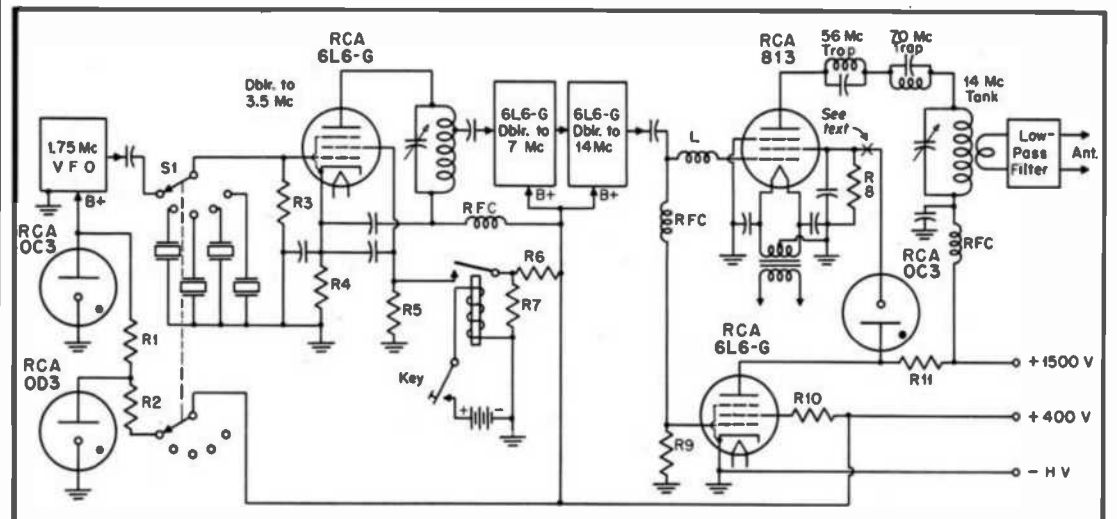

Figure 6
Another application of the VR tube keying circuit is shown in Fig. 6. This arrangement makes it possible to key a buffer stage or the oscillator so that break-in keying may be utilized. Bias for the control tube is obtained automatically at the correct time from the grid resistor of the final amplifier. The protection the control tube gives to the final amplifier, if exci-
- Fig. 6